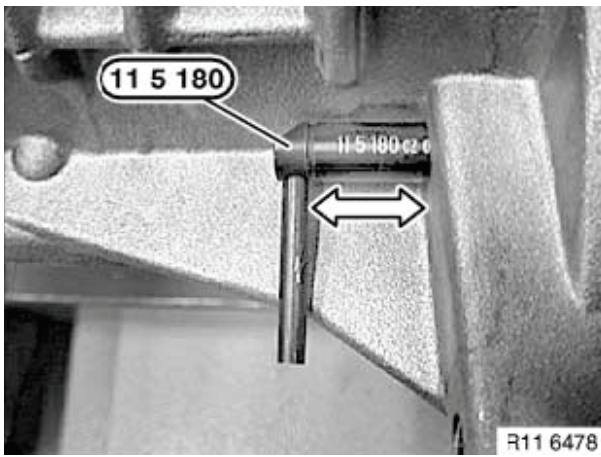

Figure 5-10
10. Rotate crankshaft using the crankshaft dampener bolt until No. 1 cylinder is at TDC. Secure flywheel using flywheel holding tool OEM No. 11 5 180 (**Figure 5-10**).